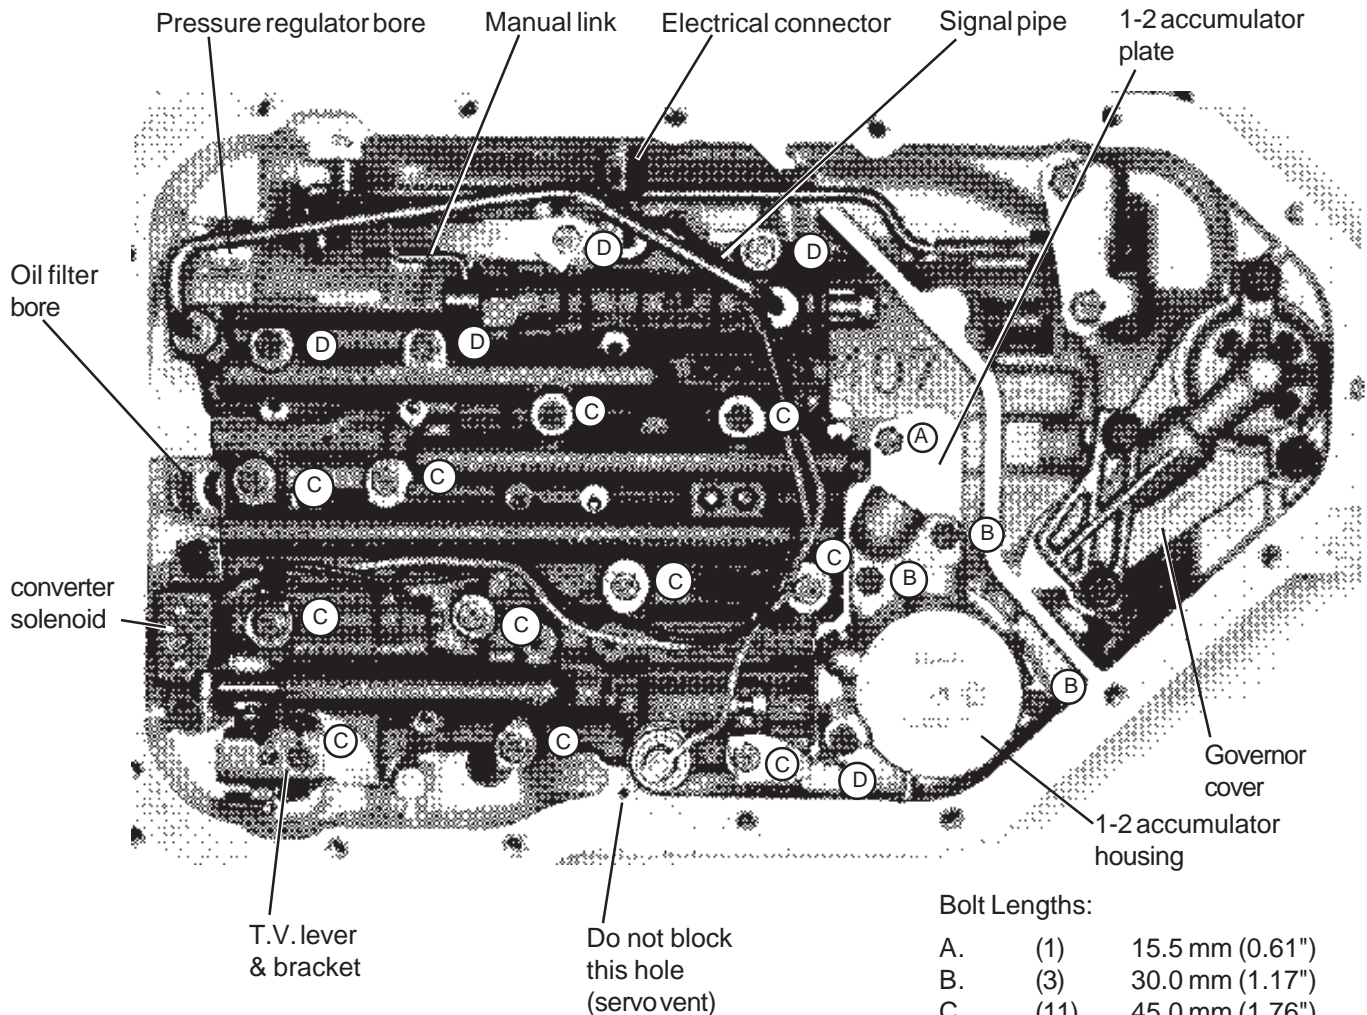
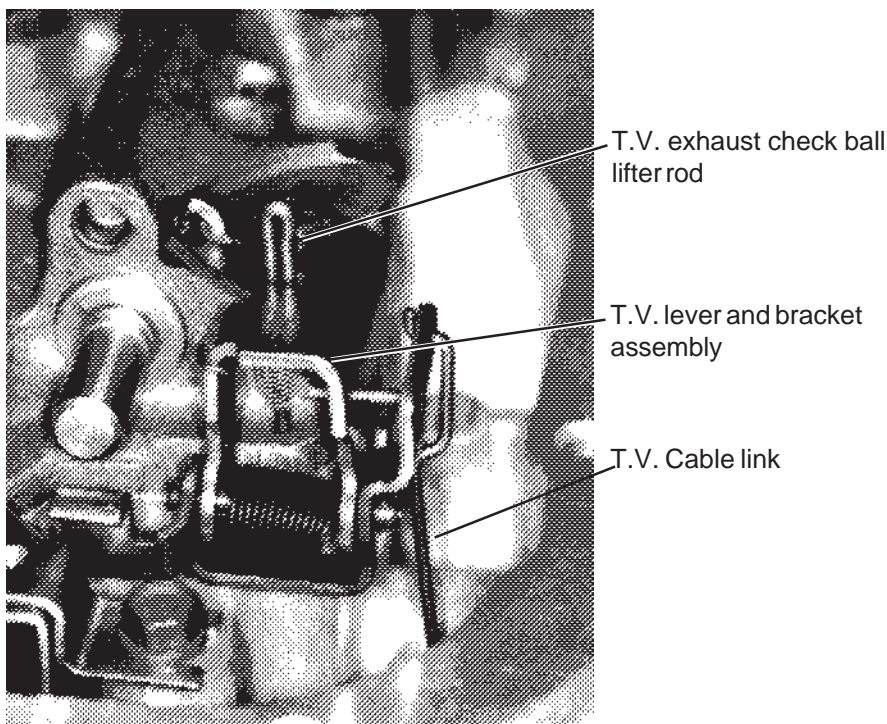

Fig. 1. Valve body and accumulator installed.
Fig. 2. T.V. Lever and Bracket.
STEP 3. (See Fig. 1) There are a variety of different wiring harnesses used on the TH-200-4R. Before proceeding further make a sketch and some notes describing your particular unit, recording which connectors go to which switch. Disconnect the T.V. cable connector from the throttle lever on carburetor or throttle body. Remove connectors from switches. Unplug the wiring harness from case electrical connector by prying the lock tab away from the plug, **do not pull on the wires**. Removing solenoid is not required, just tie the wires up out of the way. Remove signal oil pipe, detent spring, and the throttle valve lever and bracket assembly. Be careful not to lose the T.V. exhaust checkball lifter rod when removing throttle valve lever and bracket assembly, (see Fig. 2.)
STEP 4. Remove all valve body bolts **except** the center one (See Fig. 1.) Hold the valve body up firmly with one hand and remove the remaining bolt slowly. Lower the valve body and disengage the manual valve link. There are several check balls in the valve body along with several pints of oil. Have your drain pan ready to catch the oil and check balls (should they fall out.) Save all (12) check balls in a safe place where they won't get lost.
STEP 5. Remove the 1-2 accumulator housing and plate while holding the separator plate up to the case. Then slowly lower the separator plate and retrieve the (8) check balls located above the plate. **IMPORTANT:** Make note of the **color, size and location** of the 1-2 and 3-4 accumulator springs for correct reassembly. Remove all old gasket material from these parts.
STEP 16. Valve body installation. Make sure check balls are in proper locations. Position the manual valve so the link rod can be engaged (**See Fig. 1.**) Do not force the manual valve at any time. When the link and manual valve are fully engaged, align the valve body and case holes then install one bolt finger tight to hold valve body in place. **Important:** Make sure the manual valve link is located as shown.
STEP 17. Install the throttle valve (TV) linkage onto the valve body as shown, make sure the T.V. exhaust checkball lifter rod is correctly assembled. (**See Fig. 2.**) **IMPORTANT NOTE: The T.V. cable MUST be reset before operating vehicle refer to step 22.**
STEP 18. Carefully insert ends of the signal oil pipe in their respective bores and push them in evenly until fully engaged. Engage all of the remaining bolts to finish lining up the separator plate and gaskets (**See Fig. 1.**) Tighten all the valve body and accumulator bolts to 11 NM (8 Ft. Lb.) **Avoid stripped threads, Do not over tighten bolts.**
hold the gasket in place during installation of pan. **Do not use any gasket sealer or silicone compounds.** To prevent premature band failure make sure the servo exhaust hole shown in (**Fig. 1**) is not obstructed. Place pan up to case, align holes and install all bolts finger tight. Tighten bolts to 14 NM (10 Ft. Lb.) Do not over tighten bolts. If the bolts are over tightened the gasket will deform excessively and result in oil leaks.